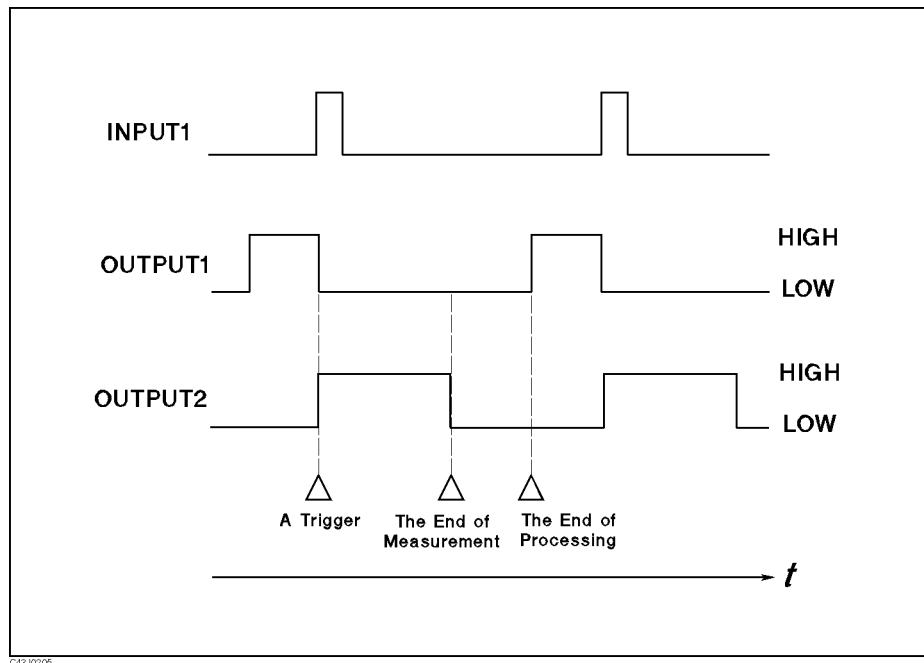

Figure 4-2. INPUT1, OUTPUT1, OUTPUT2 Timing Chart
1. Specify the status of OUTPUT1 and OUTPUT2 at the INPUT1 input. See Figure 4-2 to set OUTPUT1 to LOW and set OUTPUT2 to HIGH.